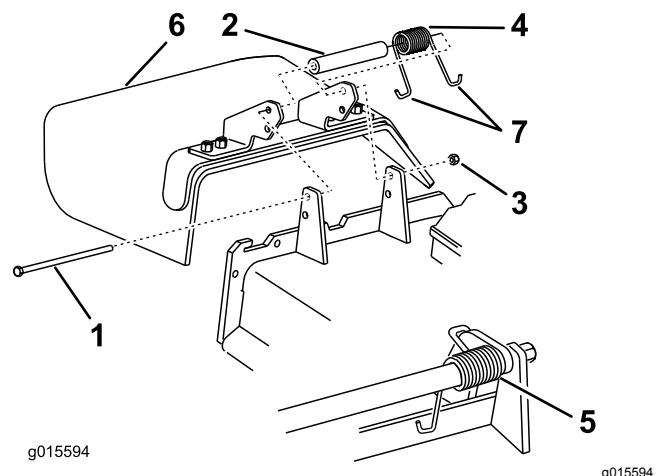

Figure 91
1. Remove the locknut, bolt, spring, and spacer holding the deflector to the pivot brackets (Figure 91).
Note: Make sure that 1 J-hook end of spring is installed behind deck edge before installing the bolt as shown in Figure 91.
6. Place 1 J-hook end of the spring around the grass deflector (Figure 91).